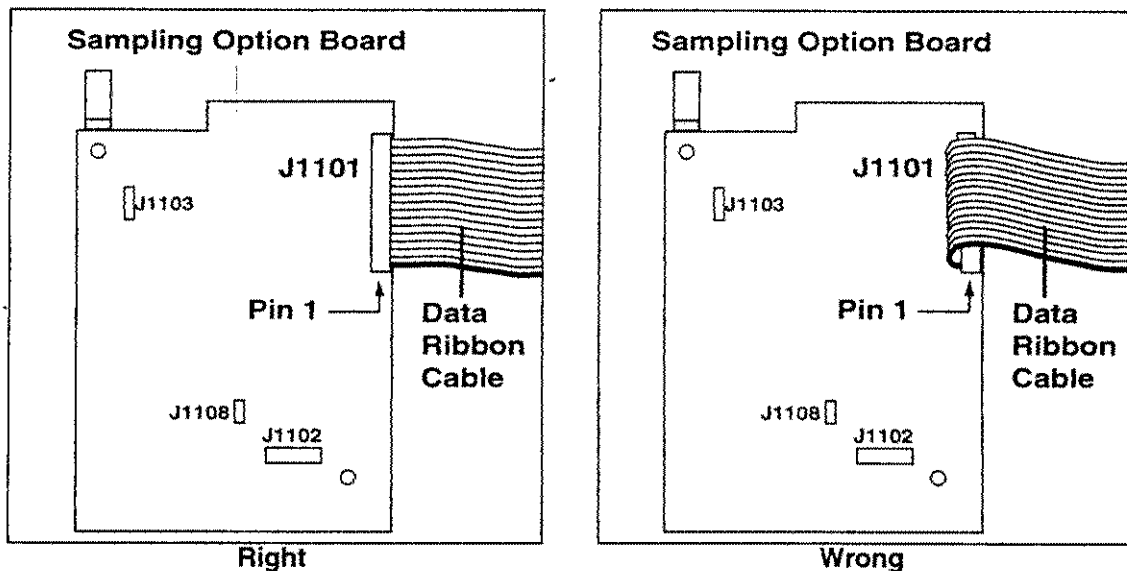

Figure 12.
7. Insert the Data Ribbon Cable into socket J1101 on the Sampling Option Board. Make sure you plug the correct end of the Data Ribbon Cable into J1101, as shown in Figure 12. If you plug the wrong
6. Insert the Data Ribbon Cable into socket J1101 on the Sampling Option Board. Make sure you plug the correct end of the Data Ribbon Cable into J1101, as shown in Figure 12. If you plug the wrong